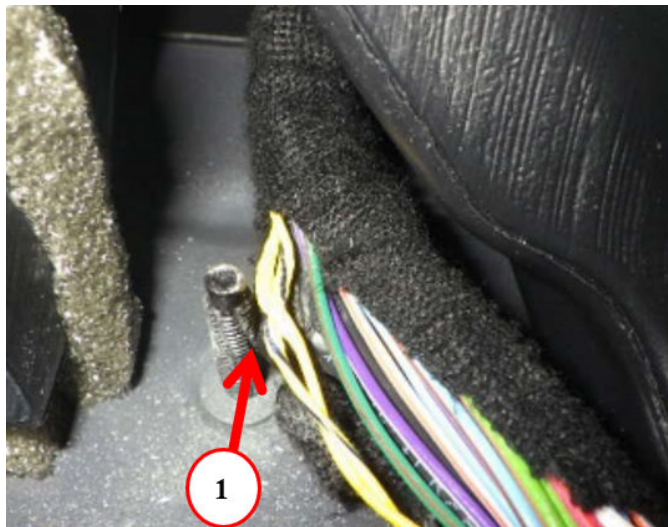

Fig. 6
29. Is the wiring harness fouling with the stud Fig. 6?